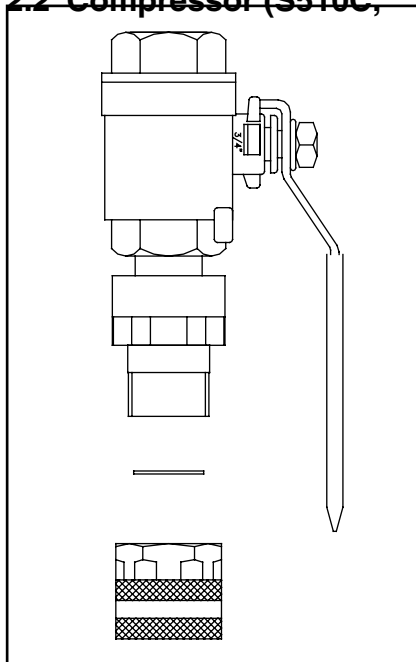

Fig. 8
### 2.1 Filter (Fig. 8)
4. Dismount the filter placed between the inlet coupling and the vacuum valve (Fig. 8) and place it in a scale dissolvent until the calcerous substance has been dissolved.